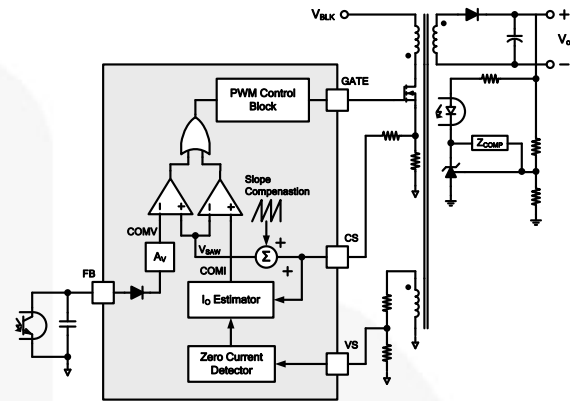

Figure 20. Simplified CV / CC PWM Control Circuit
Figure 20 shows a simplified CV / CC PWM control circuit of the FAN501. The Constant Voltage (CV) regulation is implemented in the same manner as the conventional isolated power supply, where the output voltage is sensed using a voltage divider and compared with the internal reference of the shunt regulator to generate a compensation signal. The compensation signal is transferred to the primary side through an opto-coupler and scaled down by attenuator AV to generate a COMV signal. This COMV signal is applied to the PWM comparator to determine the duty cycle.